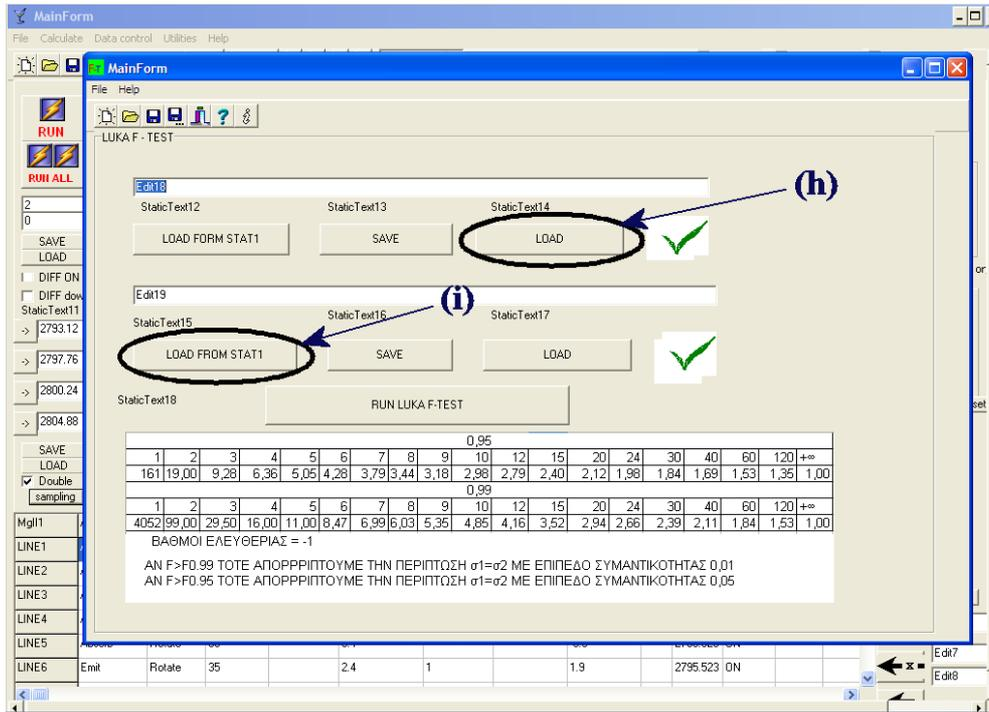

Figure 4.8
- (h) In the new window (Figure 4.8) click on the  button, in order to reload the data of the first theoretical profile of the spectral line.
- (i) Click on the  button, in order to load the data of the second theoretical profile of the spectral line (Figure 4.8).